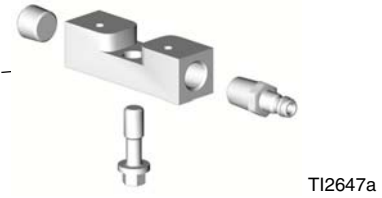

FIG. 16: Flush Manifold
- Install flush hoses to flush manifold 15B817. See FIG. 16. Install flush manifold onto gun. Torque flush manifold bolt to 20-30 in-lb (2.26-3.39 N•m).